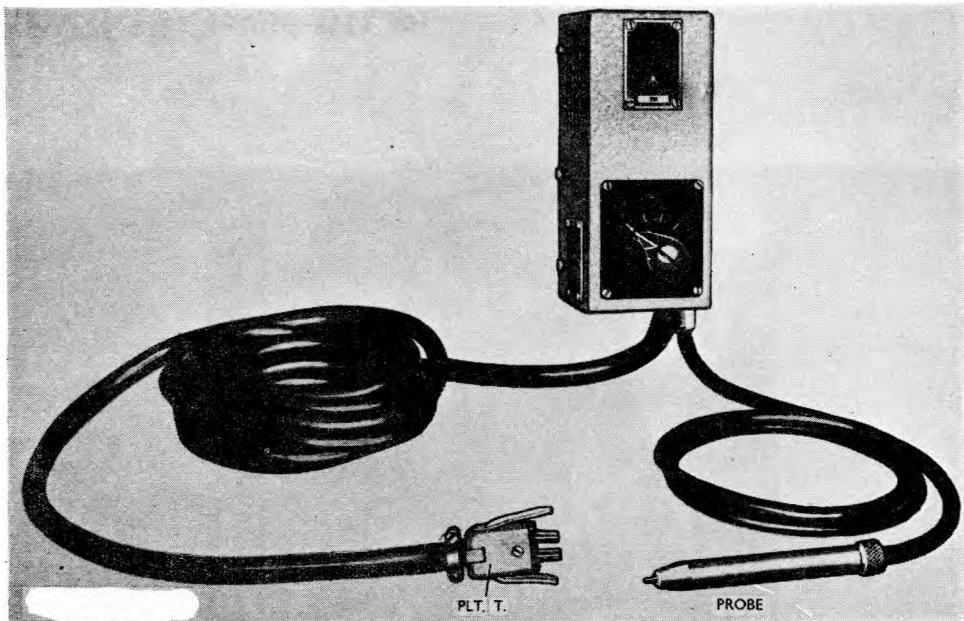

Fig. 12. Cathode follower unit : front view
55. The cathode follower probe unit (fig. 12) contains a switched variable attenuator and a cathode follower stage. The unit is fitted with an input probe designed to mate with the various monitoring sockets provided on the transmitter and receiver panels, and enables waveforms of up to 500V amplitude to be displayed on the monitor c.r.t. when the EXT. MON. button, on the monitor selector panel, is pressed.